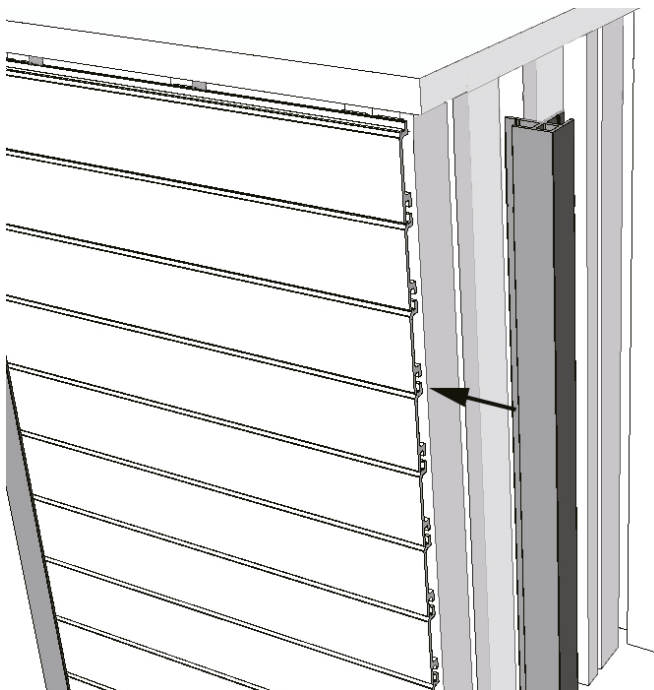

Fig7-1
1. Install the d-node, snap HLYC-015F into the installed wall plate, and fix the screws after drilling pre-drilled holes in the HLYC-015F screw fixing recess on the other side. As shown in Figures 7-1 and 7-2: